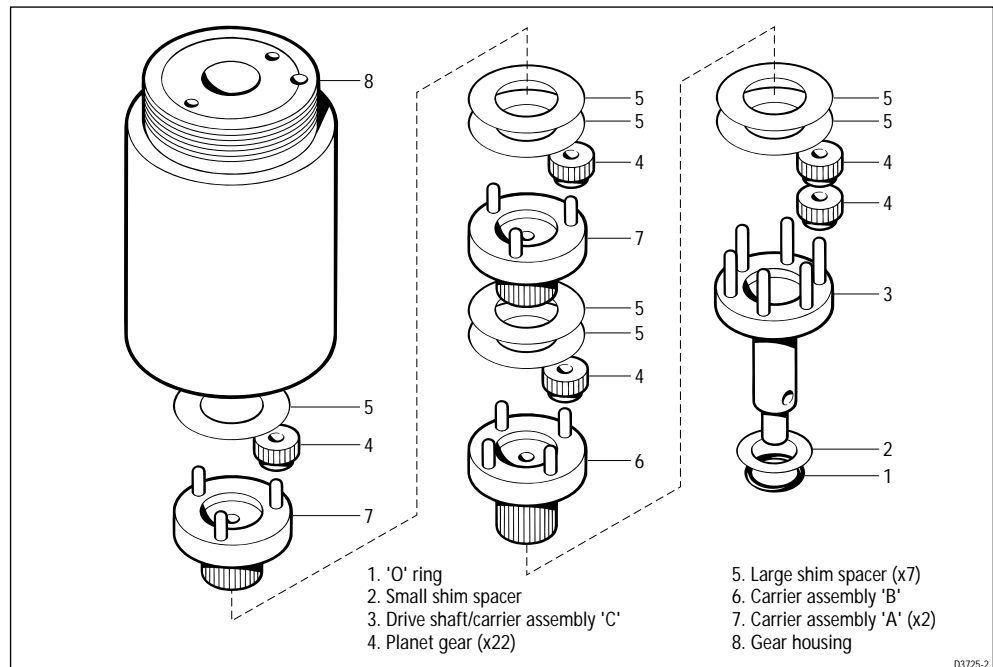

Figure 8. Gearbox exploded view
1. Rebuild gearbox. Refer to Figure 8. Gearbox exploded view
2. Fix the gearbox (23) to the back mounting plate assembly (2) using the four gearbox retaining screws (22).
3. Slide the two shims (20) over the gearbox drive shaft/gear carrier 'C' (21) and hard up against the back mounting plate assembly (2).
4. Support the gearbox drive shaft/gear carrier 'C' (21) and refit the pin (19).